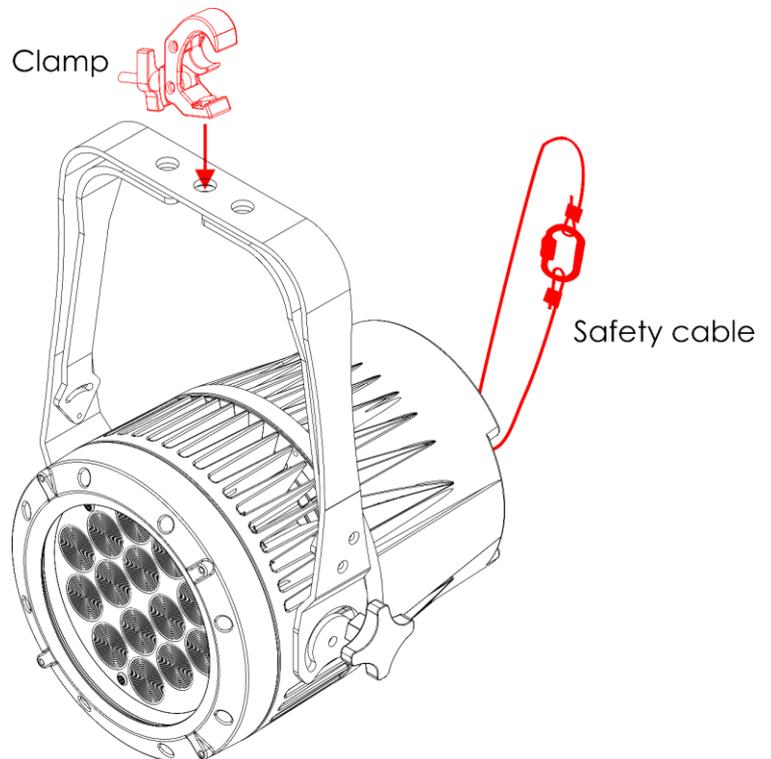

Fig. 08
- 01) Use a clamp to attach the device to the supporting structure, as shown in Fig. 08. Make sure that the device cannot move freely.
- 02) Secure the device with a secondary suspension, for example a safety cable. Make sure that the secondary suspension can hold 10 times the weight of the device. If possible, the secondary suspension should be attached to a supporting structure independent of the primary suspension. Put the safety cable through the **safety eye (10)**, as shown in Fig. 08. You can use the safety cable supplied with the device.